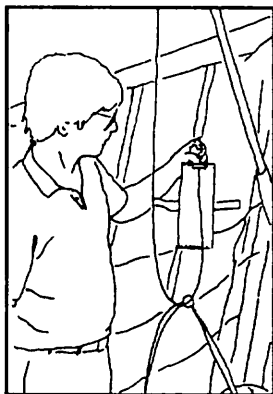

Figure 59
7) Detach the top rear wire at the rear keel. Detach the bridle ring from the bridle snap clip. Loop the top rear wire around the bridle cables and pass the keyhole tang through the elastic webbing band at the top of the kingpost top cover. (Figure 59)